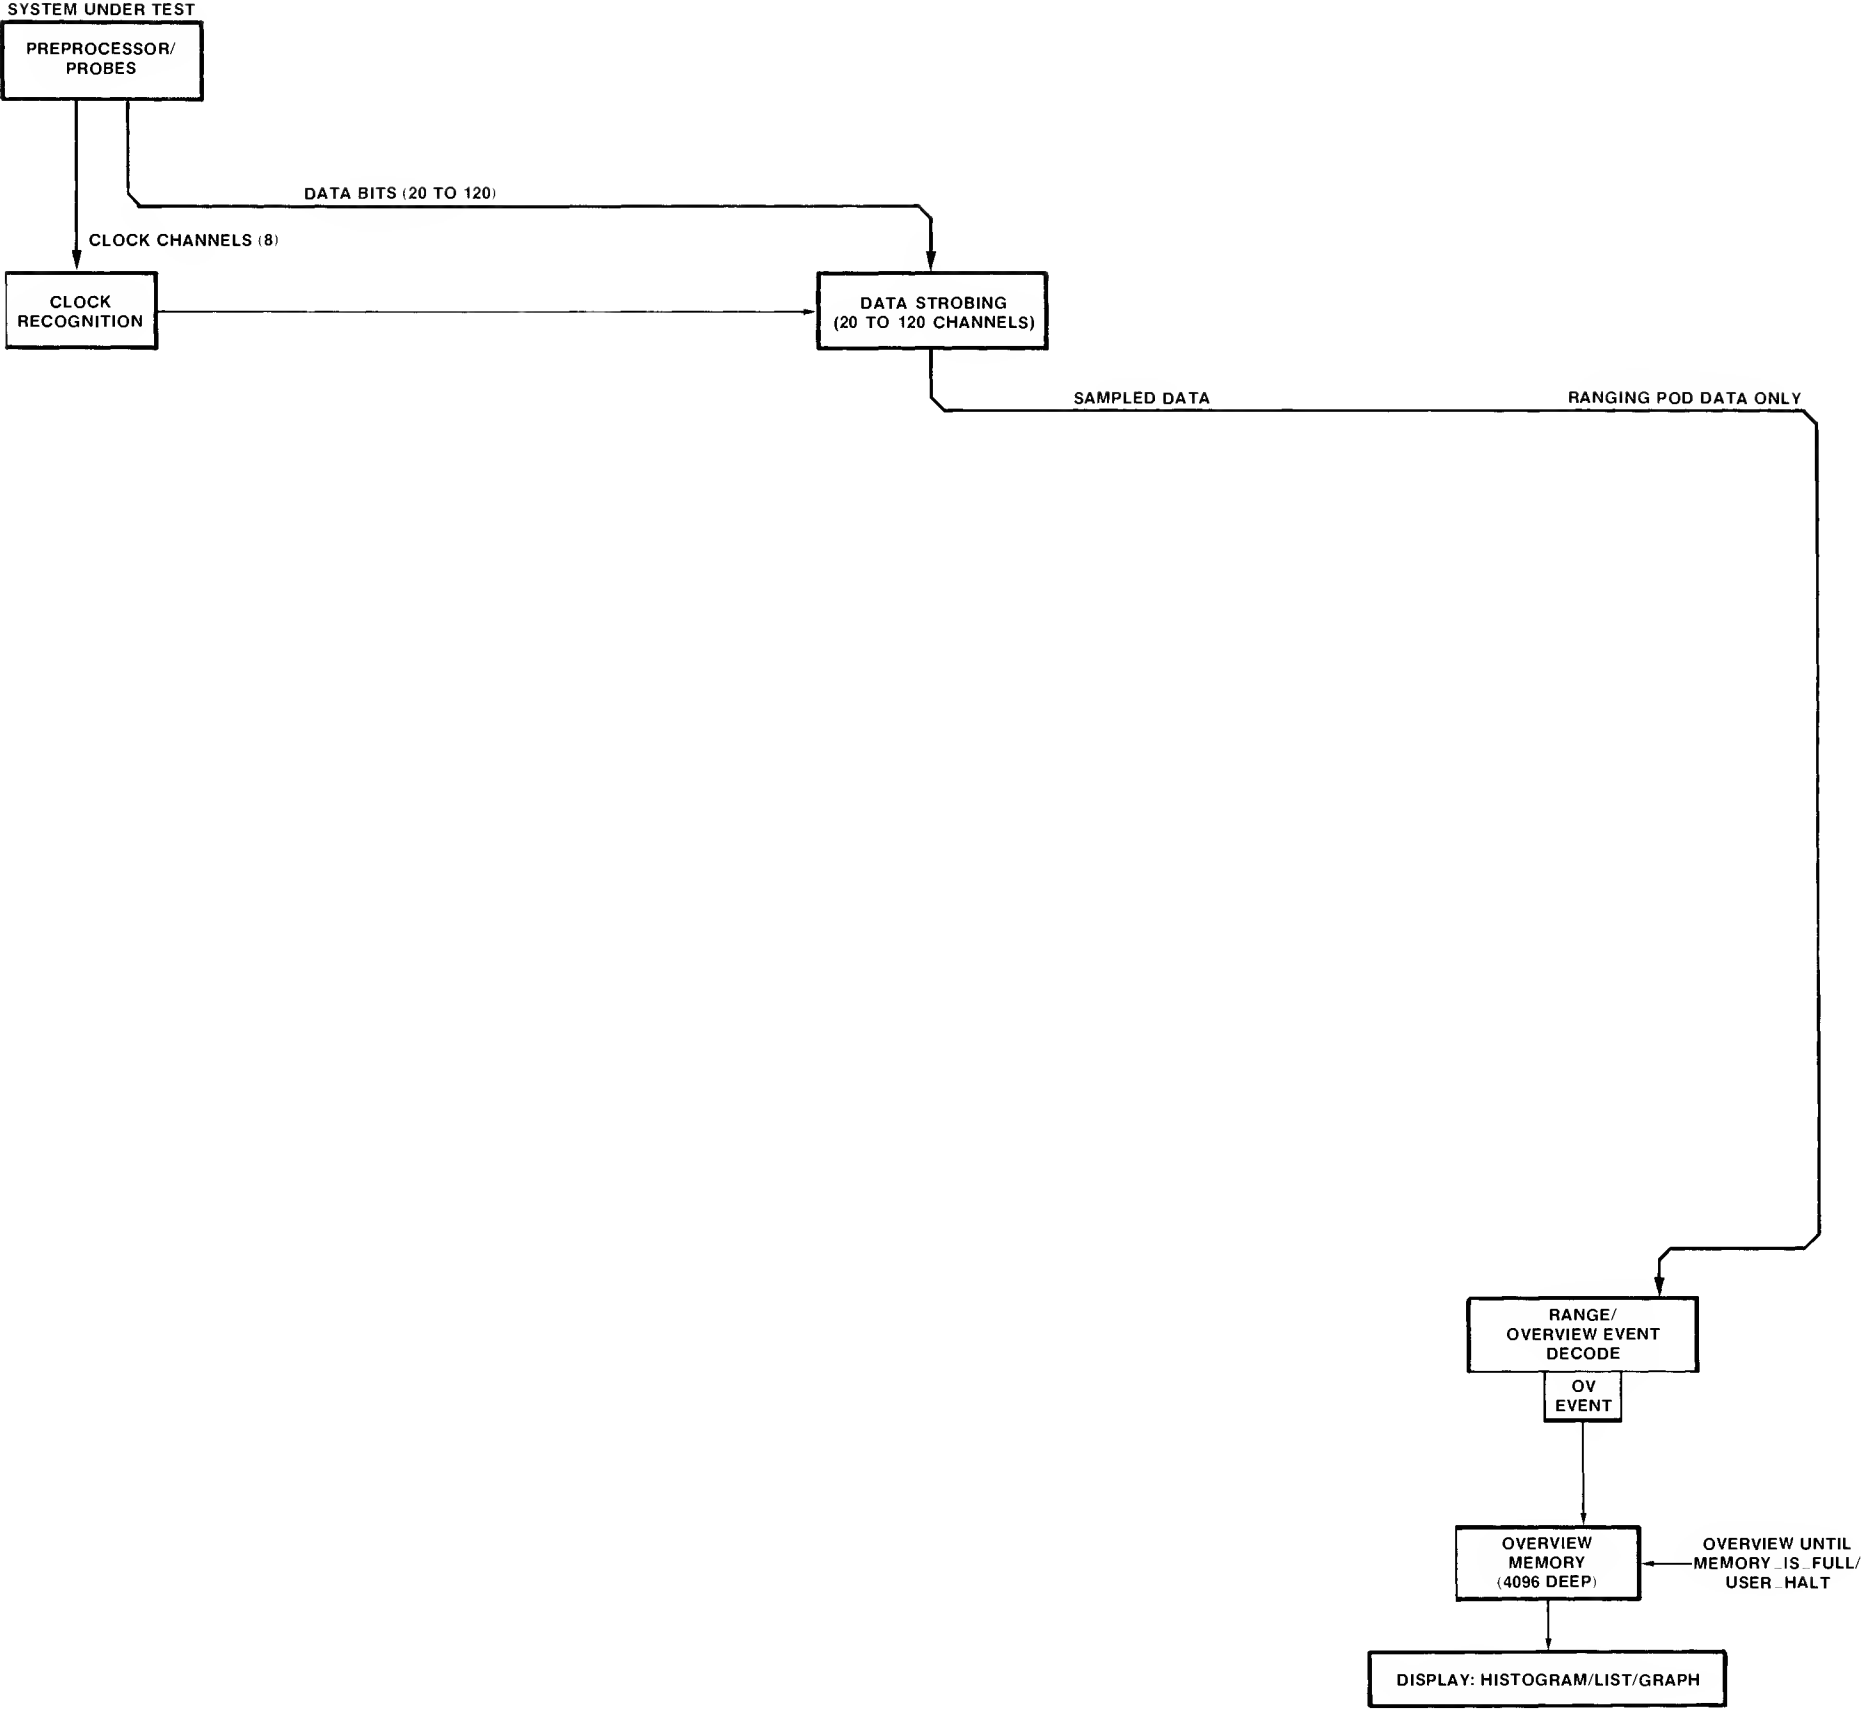

Figure 4-3. Basic Overview
(See Figure 4-3.)
This diagram shows basic overview functions from Figure 4-3, and adds the state/software analyzer functions used to obtain the full overview measurement capabilities. Three modes of overview measurements can be made with the state/software analyzer: time-count, state-count, and ranging-label overview. This diagram shows the state/software analyzer elements that are involved in making all three modes of measurements. For further information, refer to the chapters of this manual that describe how to use the sequence/window elements and how to make overview measurements (chapters 8B and 8C, respectively).
Ranging Label Overview. The state/software analyzer derives a series of states from a set of leads identified by a ranging label. Each of these states is classified. The classifications are stored in overview memory. The functions involved in this measurement are the data strobing which obtains the states, the range/overview event decode which detects the corresponding event classifications, and the overview memory which stores the event classifications. This mode of overview measurement was discussed for Figure 4-3. Ranging label overview can also be windowed or sampled by controlling overview enable from a sequence or window element.
Ranging Tradeoffs. Ranging in the state/software analyzer is done by the range/overview event decode. Ranging labels are labels assigned to contiguous sets of probe leads beginning with line 0 and entirely contained in pod 1, when pod 1 is a ranging pod. The state/software analyzer offers two ways to use ranging labels: (1). specifying ranges of states to be recognized as parameters for trace measurements, and (2). specifying overview measurements as described in Figure 4-3. If you use state/software analyzer ranging to accomplish one of these activities, ranging cannot be used for the other.